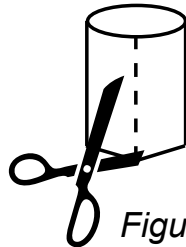

Figure 11a
11. Cut each piece of straw lengthwise (Figures 11a and 11b).